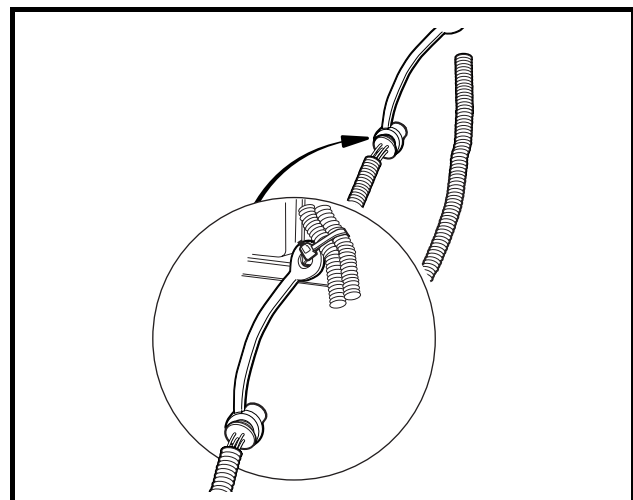

Figure 12-10 IQDM Jack Under Seat in Stowed Position (Later DS and DS Villager 4)
1. Lift and remove seat and locate IQDM jack under seat (**Figure 12-10, Page 12-18**).